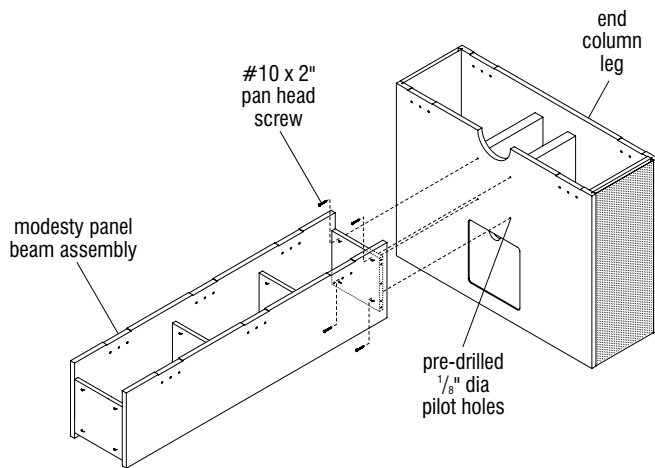

Figure 3
9. Orient modesty panel beam assembly to column leg assembly as illustrated. Align pre-drilled holes of both components and secure using four #10 x 2" pan head screws (Figure 3).